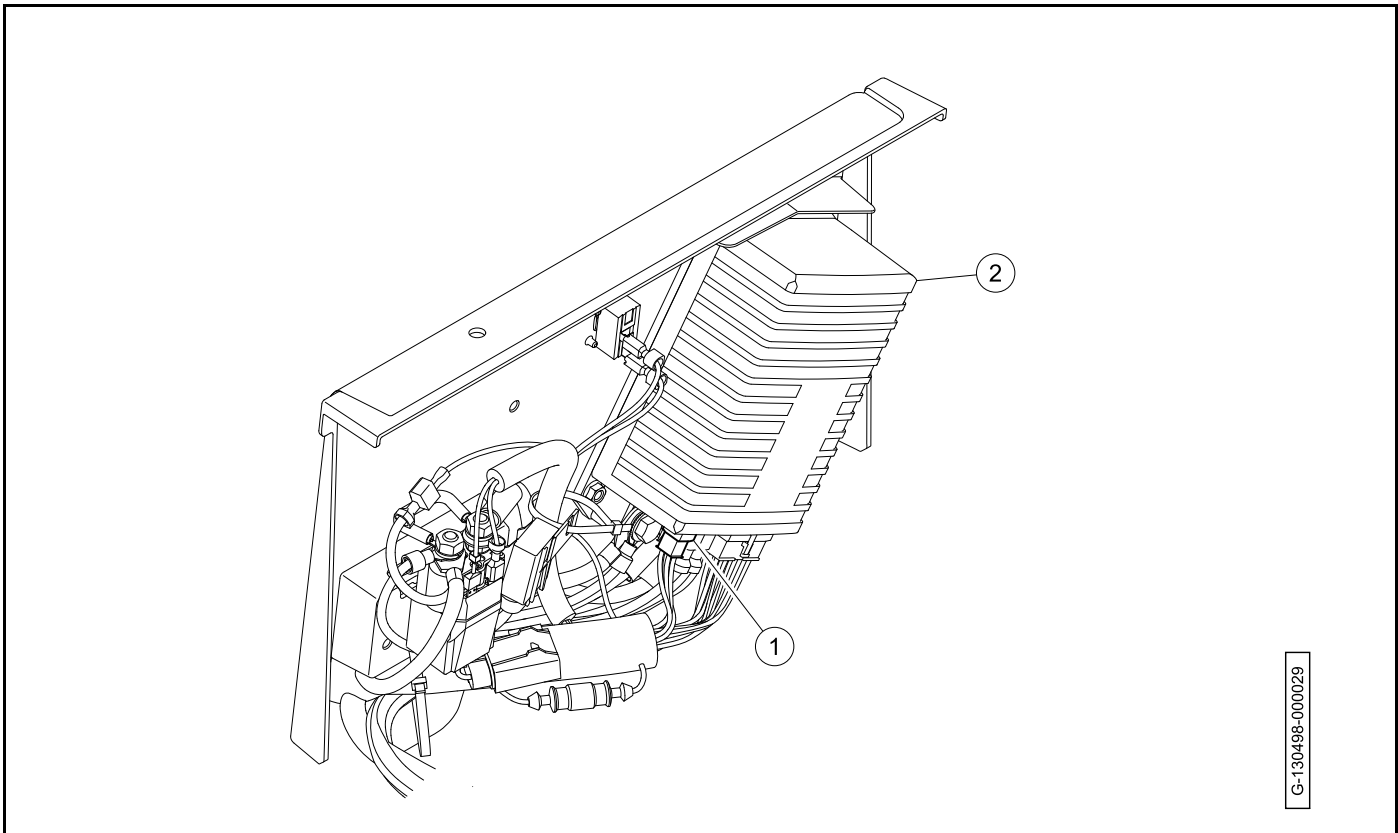

Figure 11-4
4. Tilt the instrument panel (3) up to release it from the dash assembly (4).
7. Inspect the CDT port (5) for damage and corrosion. Repair and replace as necessary.
13. Disconnect the four-pin connector (1) from the controller (2) (Figure 11-4).